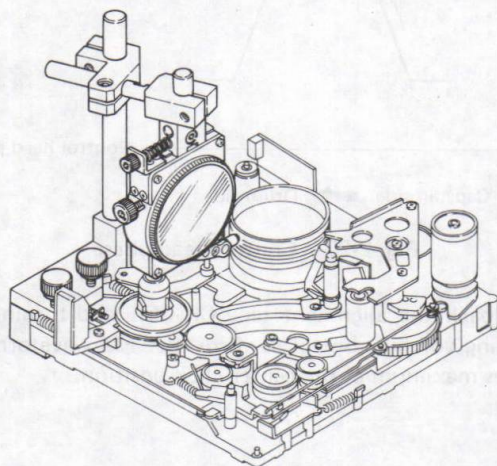

Fig. 2-8-2 Mounting
- 4) Unscrew the two mounting screws sufficiently to allow mounting, then attach the Microchecker to the main deck as shown in Fig. 2-8-2. Observe that the bracket is perpendicular to the main deck. Use care that the Microchecker (especially the test probe) does not contact the video heads.
- 5) Confirm that the Microchecker is properly positioned. The test probe should be 2 to 5 mm from the top edge of the upper drum (but not contacting a groove). Also, the test probe should be pointed toward the center of the drum as shown in Fig. 2-8-2. If necessary loosen the bolt and adjust.